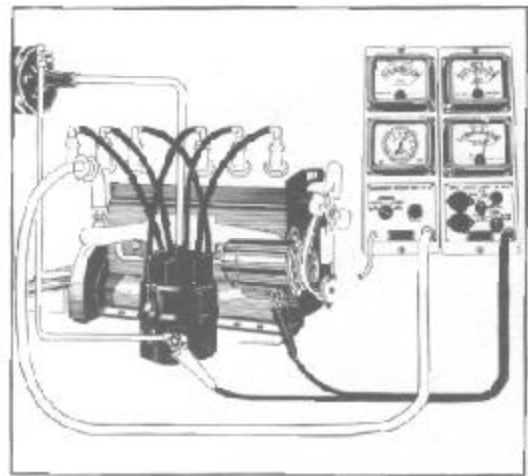

FIGURE 6
1. Attach vacuum gauge to wiper hose connection, Figure 6. (If engine has a combination fuel and vacuum pump, disconnect the booster line and plug manifold connection opening.)